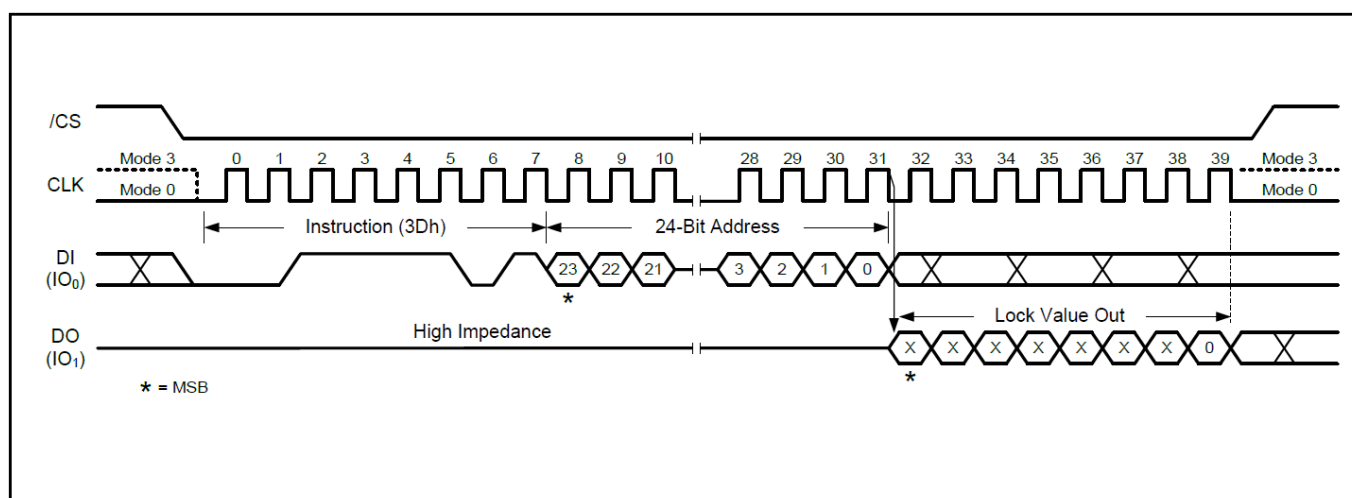

Figure 38. Read Block Lock Instruction for SPI Mode
To read out the lock bit value of a specific block or sector as illustrated in Figure 4d, a Read Block/Sector Lock command must be issued by driving /CS low, shifting the instruction code “3Dh” into the Data Input (DI) pin on the rising edge of CLK, followed by a 24-bit address. The Block/Sector Lock bit value will be shifted out on the DO pin at the falling edge of CLK with most significant bit (MSB) first as shown in Figure 38. If the least significant bit (LSB) is 1, the corresponding block/sector is locked; if LSB=0, the corresponding block/sector is unlocked, Erase/Program operation can be performed.